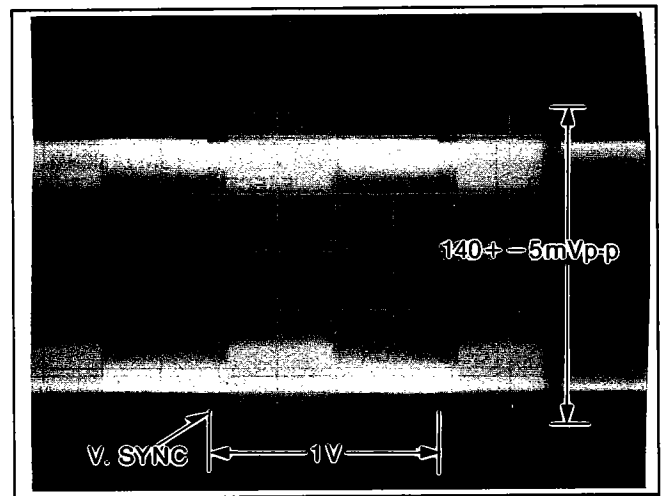

Figure E7
6. Adjust the VR3002 for 140 +/- 5mVp-p as shown in Figure E7.